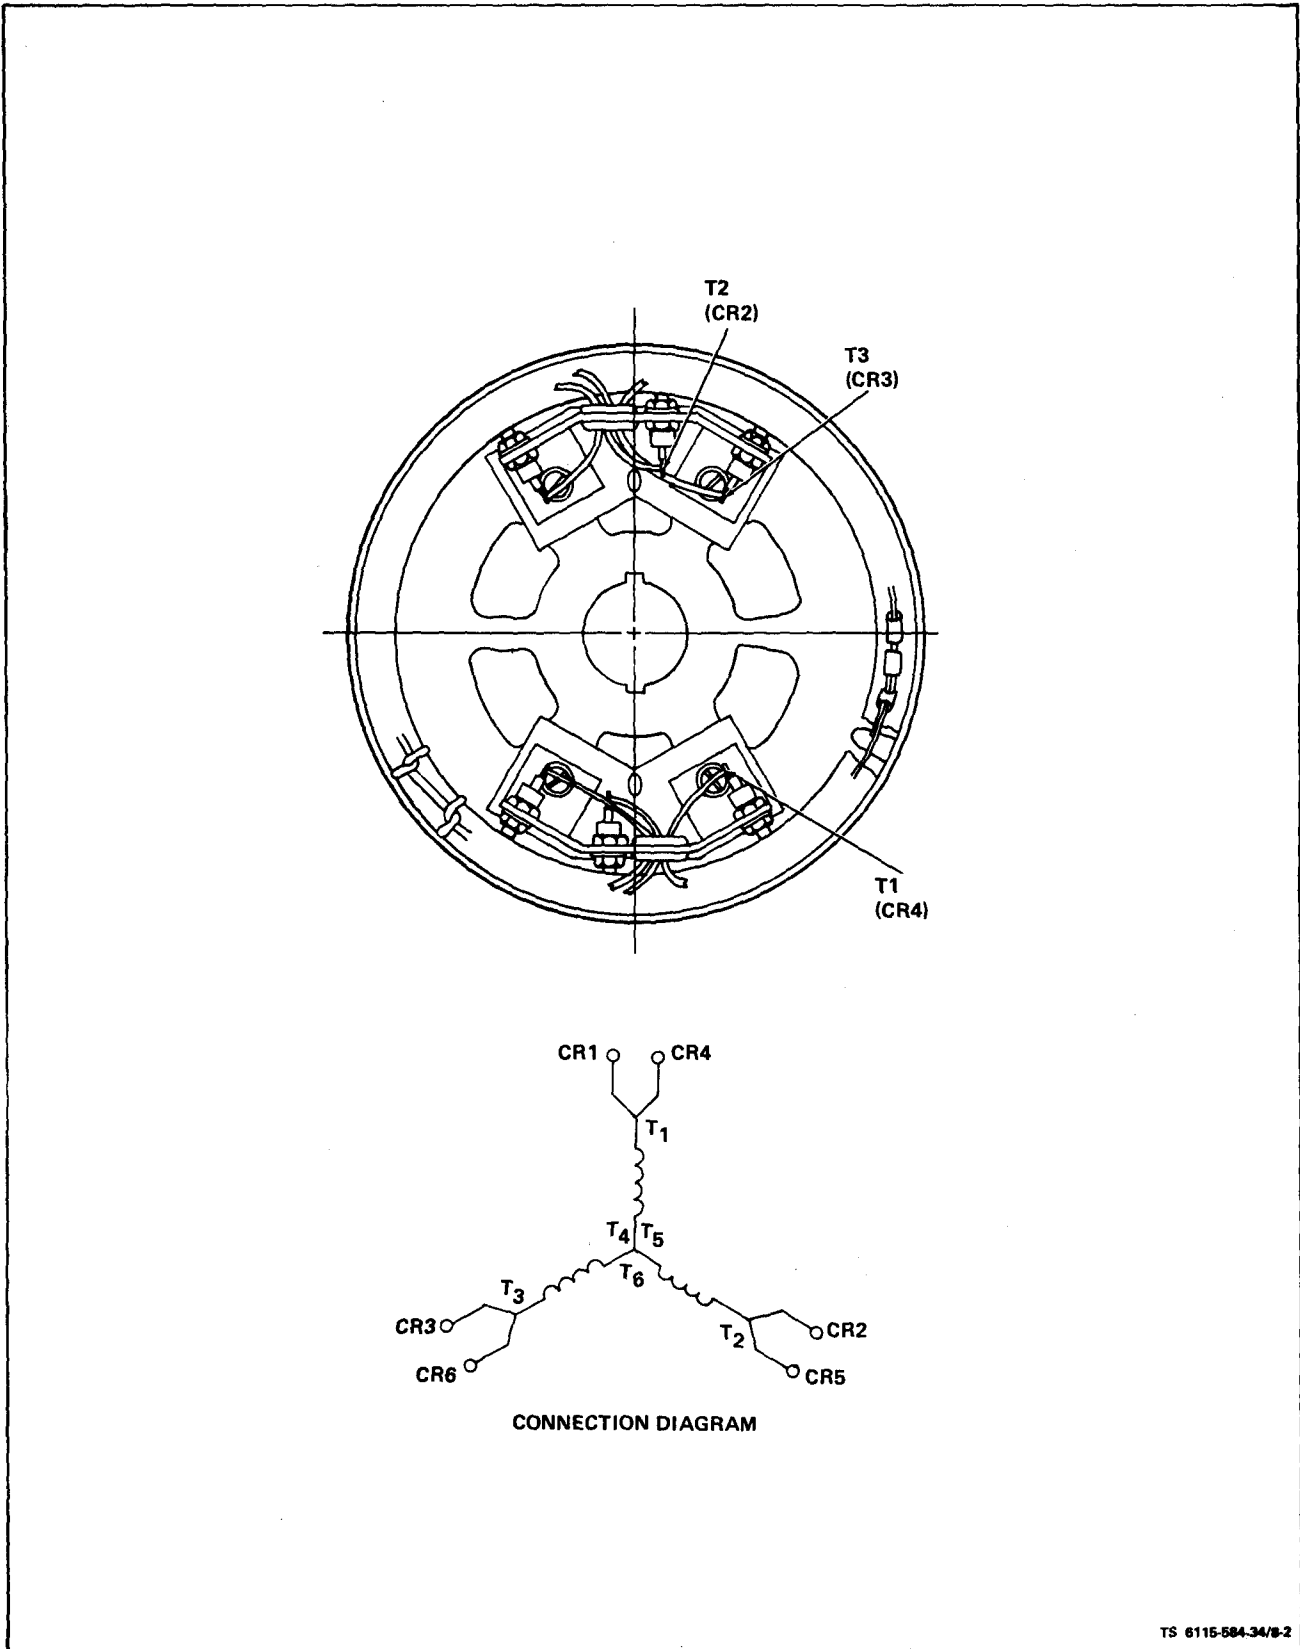
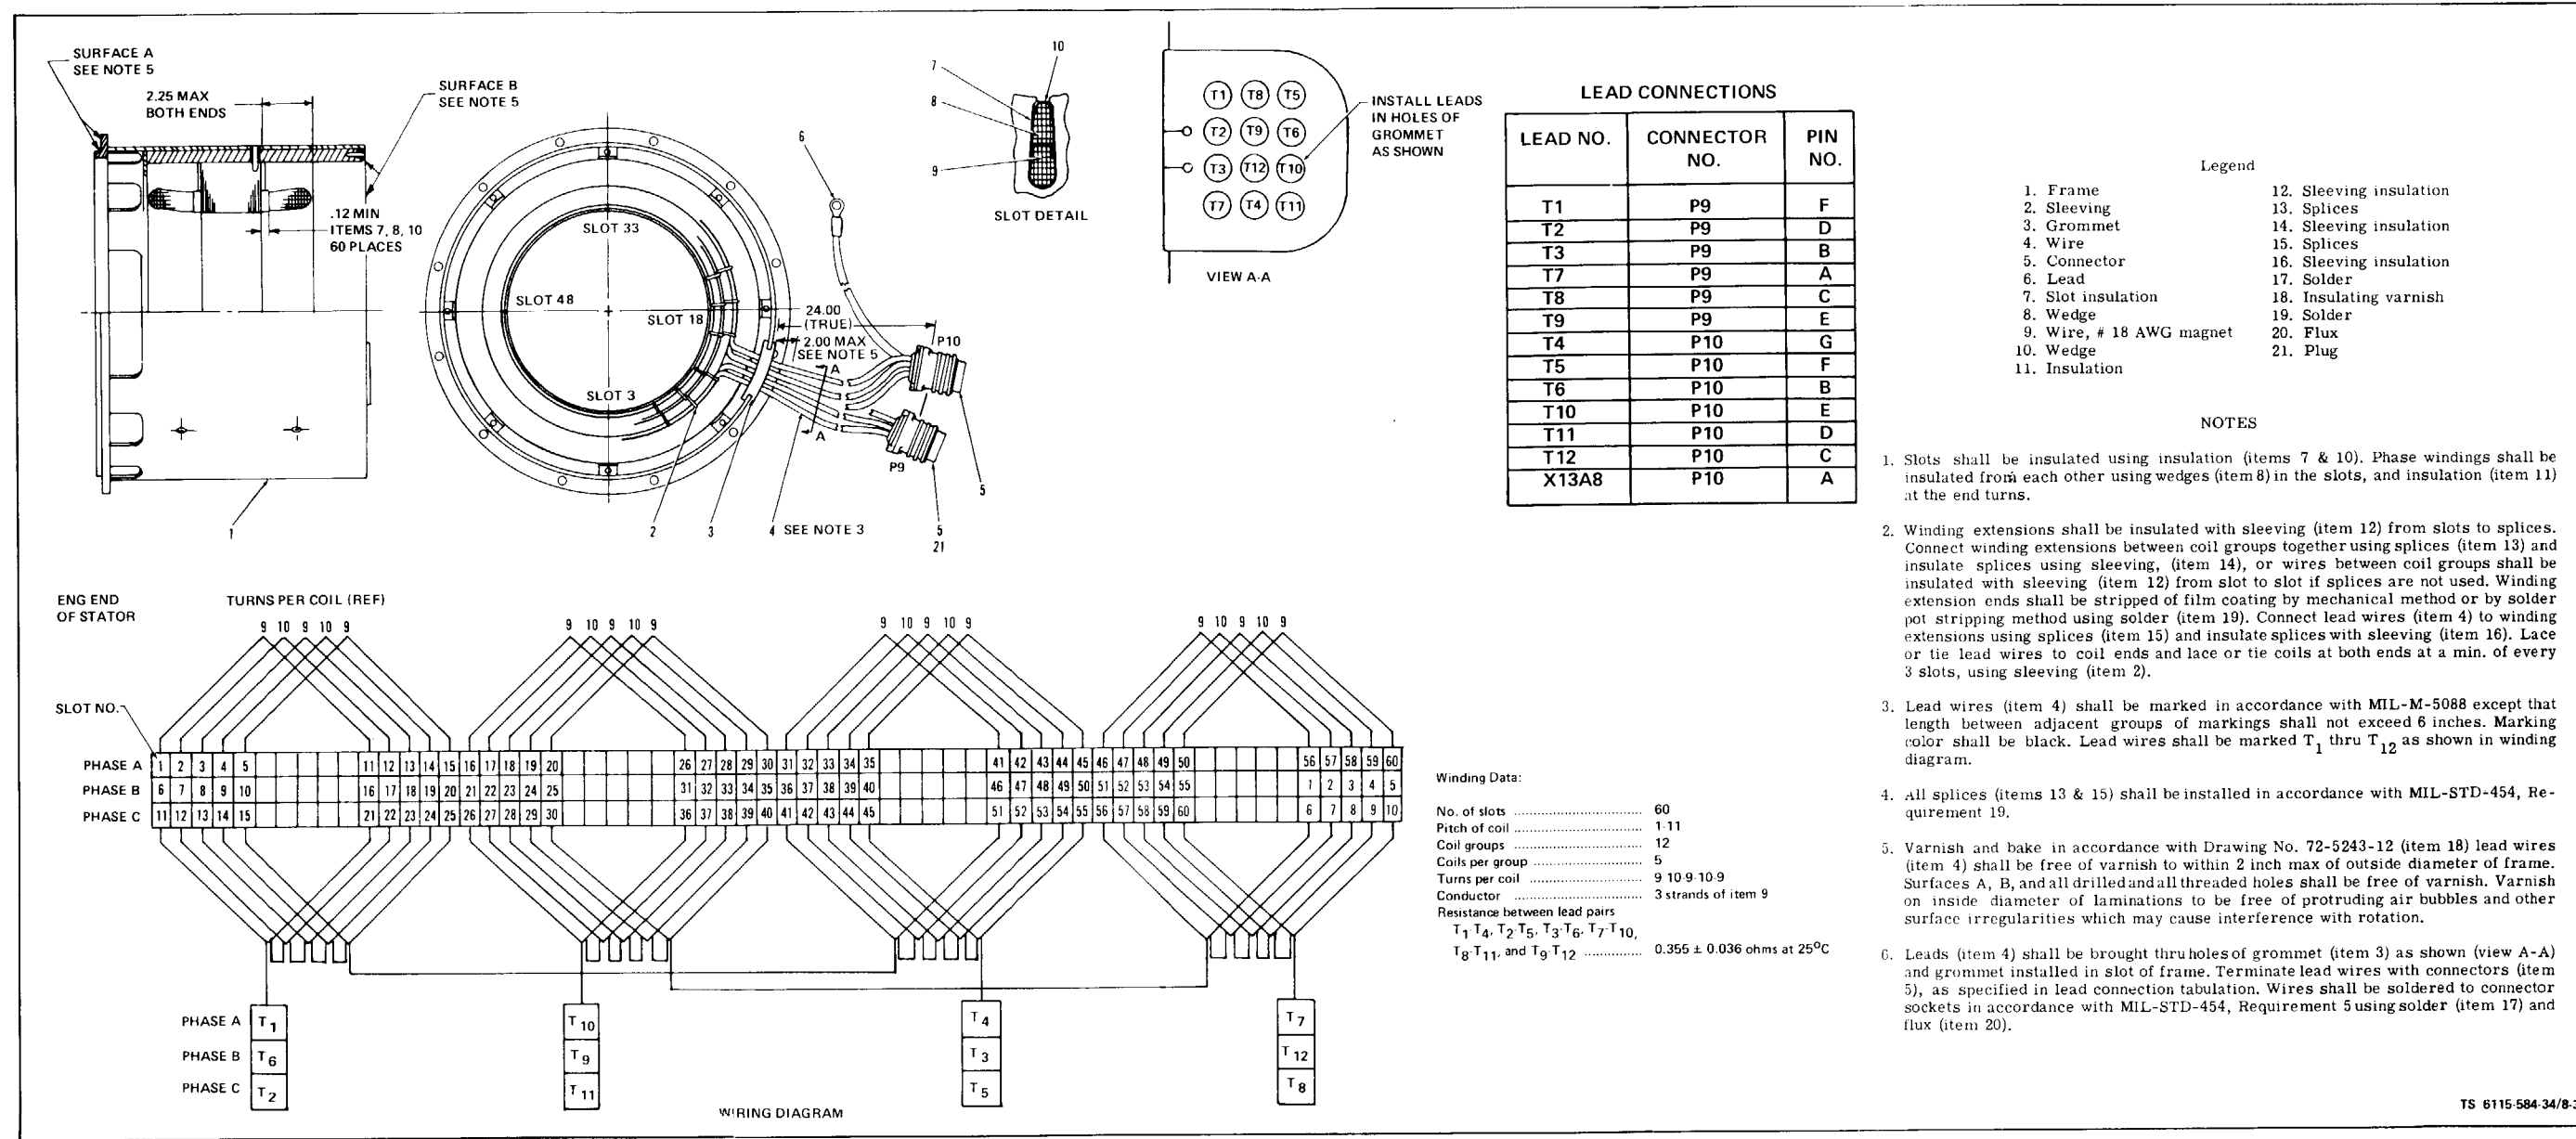

Figure 8-2. Testing Exciter Rotor
Figure 8-3. Generator Frame Assembly Winding Data
(5) Results. Any evidence of insulation breakdown is cause for replacement of the equipment under test.
g. Testing Exciter Rotor. Perform winding resistance test and high potential test per MIL-STD-705A, methods 401.1 and 302.1. Test between T_1-T_2 , T_2-T_3 , T_1-T_3 . See figure 8-2 for location of test points. Resistance for each winding should be 0.677 ohms \pm 0.067 ohms. Also test for shorts between windings and between each winding and rotor core.
(1) High Potential Test. Test generator stator as given in paragraph 8-2e of this manual. Replace stator having faulty insulation.
(2) Winding Resistance Test. Perform winding resistance test using a Kelvin bridge. Follow the manufacturer's instructions given on the bridge. Resistance readings should be made on the pins of P9 and P10 (see figure 8-3). Resistance between lead pairs T_1-T_4 , T_2-T_5 , T_3-T_6 , T_7-T_{10} , T_8-T_{11} and T_9-T_{12} should be 0.355 \pm 0.036 ohms at 77°F (25°C). Refer to the table in figure 8-3 for location of the terminals. Also check resistance between each pin A through F of P9 and P10 and the stator frame. Low resistance indicates a shorted stator.
(1) Generator frame assembly (see figure 8-3).